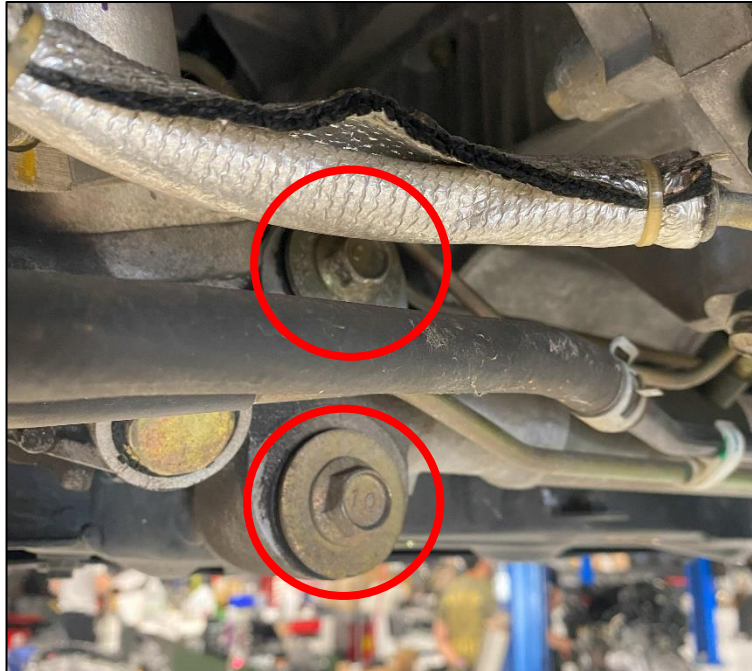

Figure 4
9. Remove the (2) two bolts that secure the Steering Rack to the subframe. Save this hardware as it will be reused. *Figure 4.*